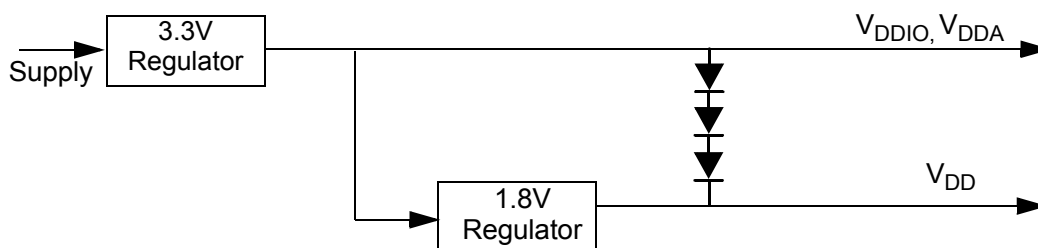

Figure 4-3 Example Circuit to Control Supply Sequencing
V_{DD} should not be allowed to rise early (1). This is usually avoided by running the regulator for the V_{DD} supply (1.8V) from the voltage generated by the 3.3V V_{DDIO} supply, see Figure 4-3. This keeps V_{DD} from rising faster than V_{DDIO} .
V_{DD} should not rise so late that a large voltage difference is allowed between the two supplies (2). Typically this situation is avoided by using external discrete diodes in series between supplies, as shown in Figure 4-3. The series diodes forward bias when the difference between V_{DDIO} and V_{DD} reaches approximately 2.1, causing V_{DD} to rise as V_{DDIO} ramps up. When the V_{DD} regulator begins proper operation, the difference between supplies will typically be 0.8V and conduction through the diode chain reduces to essentially leakage current. During supply sequencing, the following general relationship should be adhered to: